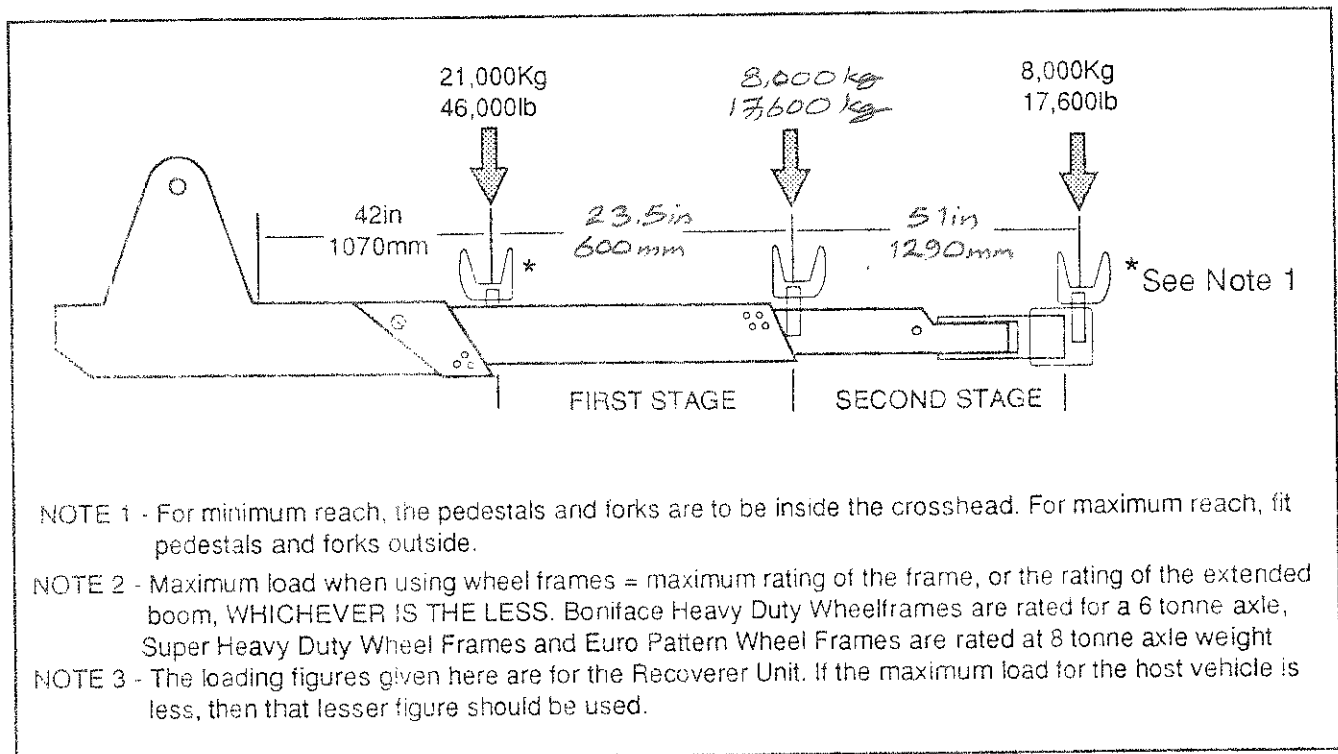

Figure 6 - Performance Figures for the Type E Extending Boom
3. This recovery unit has been designed for use in all normal vehicle recovery situations, i.e. winch hauling, lifting, suspend towing and flat towing. The load limits on these aspects are given on Pages 9 and 10 (Figure 6, 7 & 8).
7. The lifting capacity of the unit is given in Figures 6, 7 & 8. However the chassis size, weight and boom rating may limit the actual loads which can be lifted or towed. The installation of extra leaf springs is recommended, and if a choice is available, a higher rated chassis should be used in order to allow an increased payload. (See the test certificate for your vehicle.
- 2.1.12 Using the Boom Extend Push Switch, operate the extendible underlift boom and check for leaks. Ensure that the extension is that specified in Figure 6 or 7.
- 2.2.1 Without aiming to overload the Recoverer or the vehicle it is fitted to, (See Figure 6 or 7 for loadings at full hydraulic extension), chose another vehicle which can be lifted by the unit, and prepare for an underlift as described in Part 3 of this book.